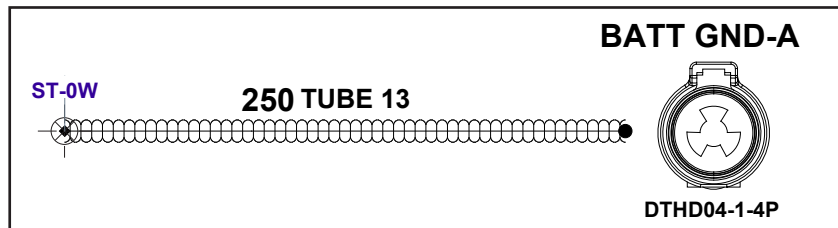

Figure 7
13. Insert all Group 2 wires into one end of parallel splice (324443) and the ST-0W wire connected to the DTHD04-1-4P connector into the other end of the parallel splice and crimp (see Figure 7).